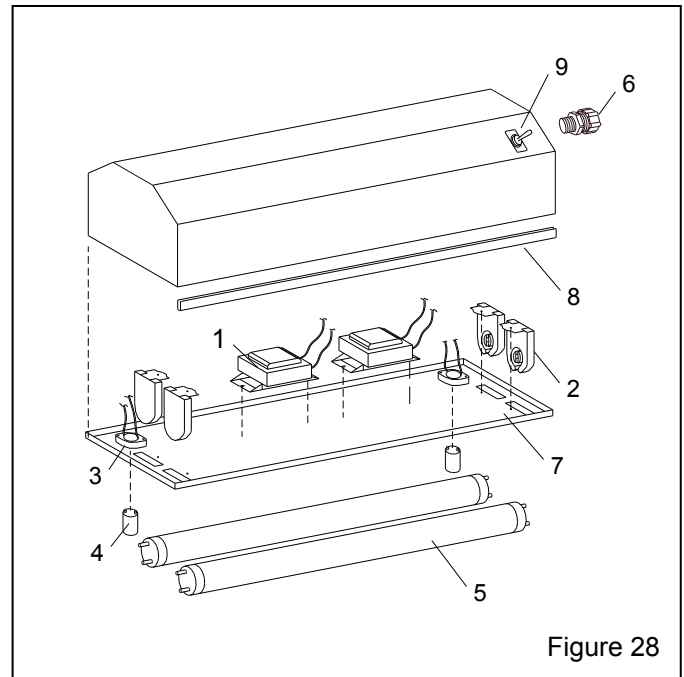

Figure 28
8.6 Light Shield Assembly, Figure 28